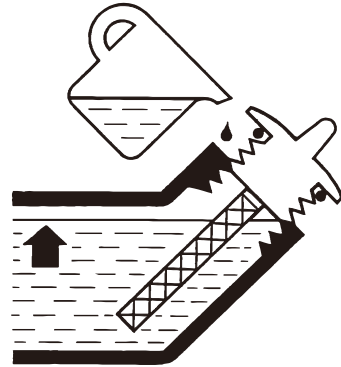

Figure 4: Engine Oil Correct Level
4. Do not overfill, if oil level is too high, oil will drain out through the fill plug. See correct oil level in Figure 4.
- The engine is filled with engine oil (see Figure 4: *Engine Oil Correct Level* on page 13).